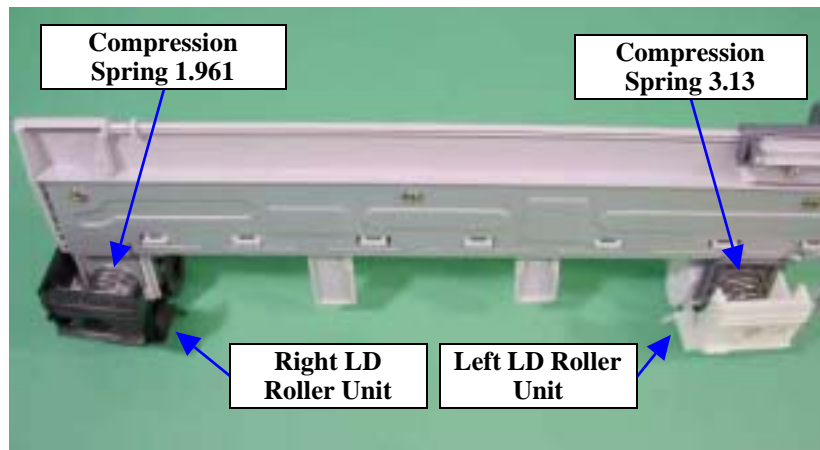

Figure 4-36. Removing the LD Roller Units
- Place the Compression Springs into the Left and Right LD Roller Units correctly. (Place the Compression Spring 1.961 on the right and the Compression Spring 3.13 on the left.) Refer to Figure 4-36, "Removing the LD Roller Units".